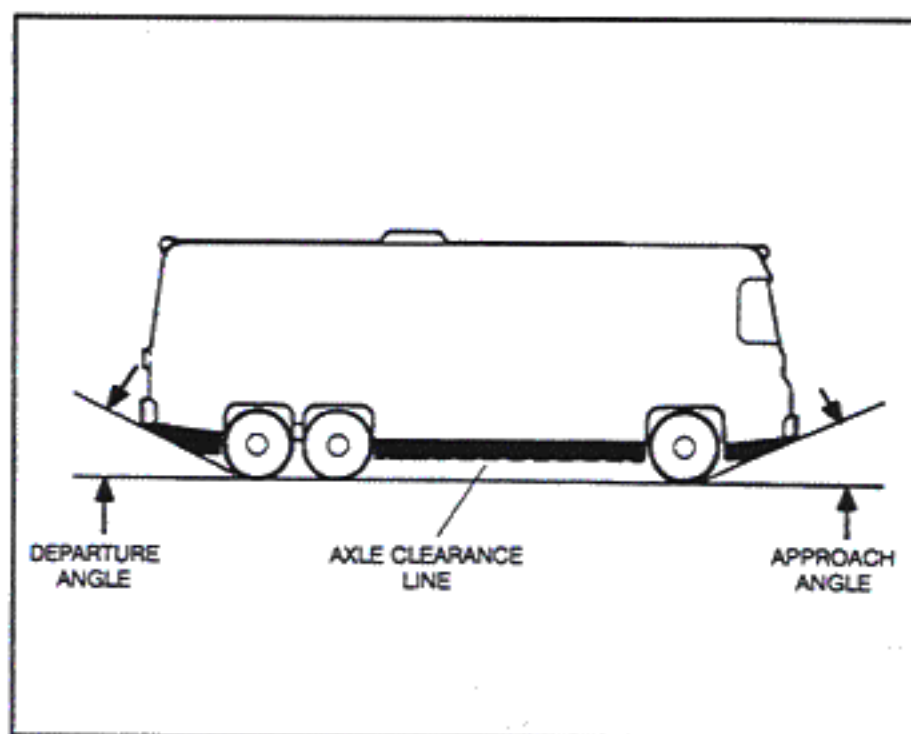

FIGURE 7. VEHICLE CLEARANCES
- A. **Below-Floor Mounting** – Use one of the mounting kits available from Onan (Page 22, 23 or 24). Follow the instructions in the kit and use Underfloor Template 539-1535 to locate the assembly. A plywood or particle board floor must be reinforced with steel to resist the dynamic weight of the genset (Item 1). Do not mount the genset within the approach or departure angles of the vehicle or below the axle line (Figure 7). If the floor is of combustible material such as wood, install a barrier of 26 gauge galvanized steel or equivalent between the floor and the genset.
7. To keep the tailpipe from being damaged, do not route it such that it protrudes into the approach or departure angles of the vehicle or below the axle clearance line (Figure 7).